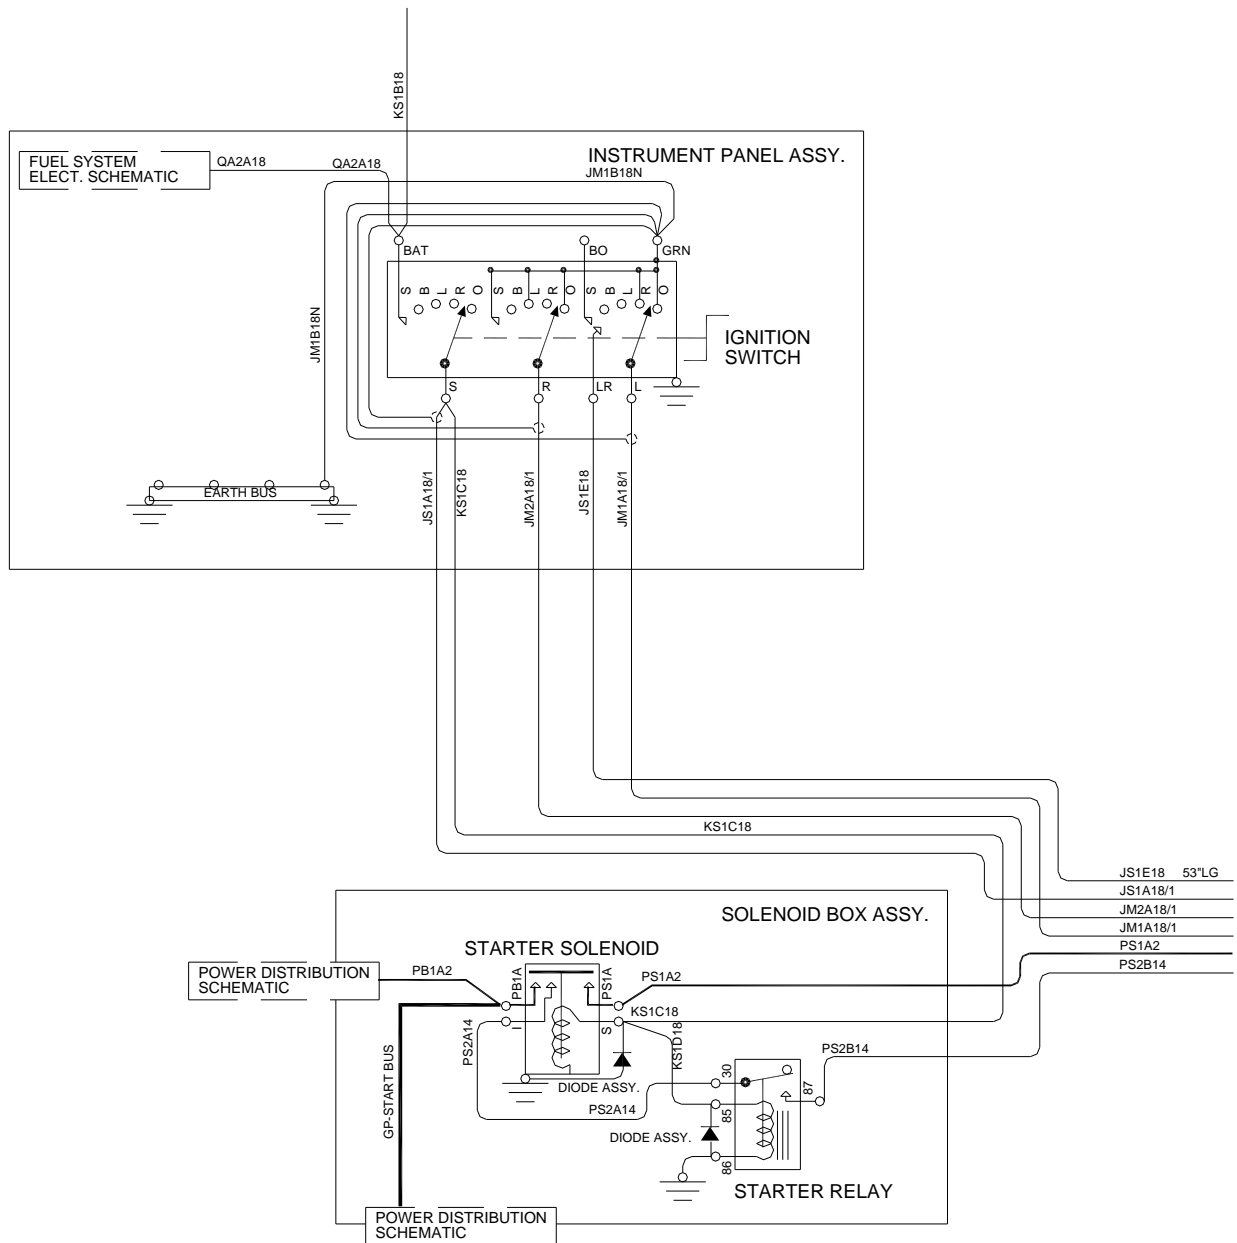
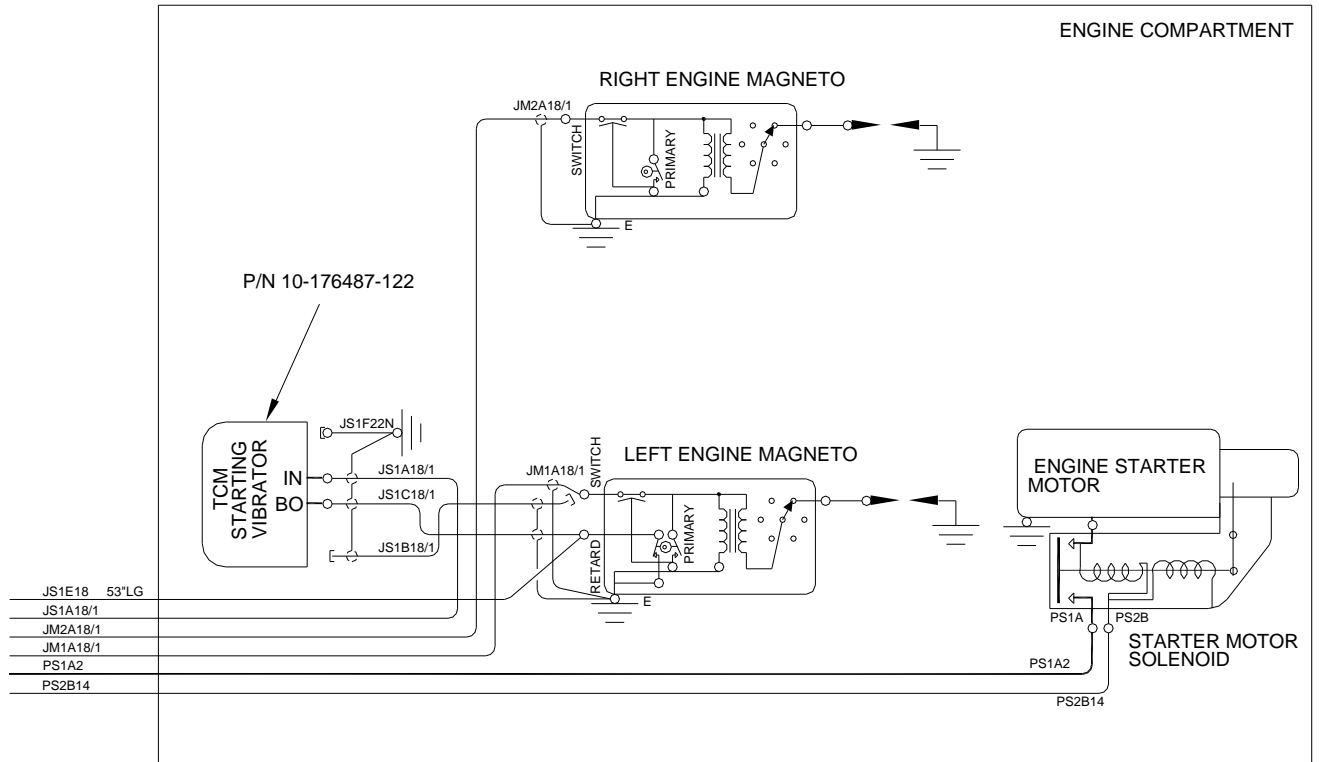

Figure 1
Figure 2
- 2.4 Do not reconnect JS1B18/1 to the switch terminal on the Left magneto. Tie the earth wire JS1F22N into the wiring loom. Install wire JS1E18 as shown in Figure 1 and Figure 2.